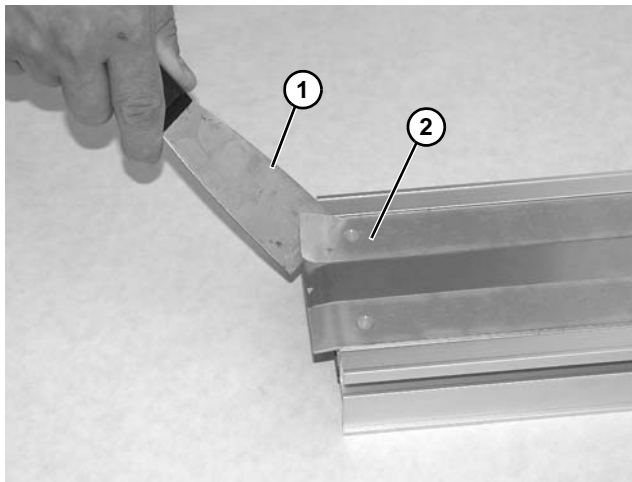

Figure 54
2. With a putty knife (**Figure 54, item 1**), start by raising edge of wear strip (**Figure 54, item 2**).